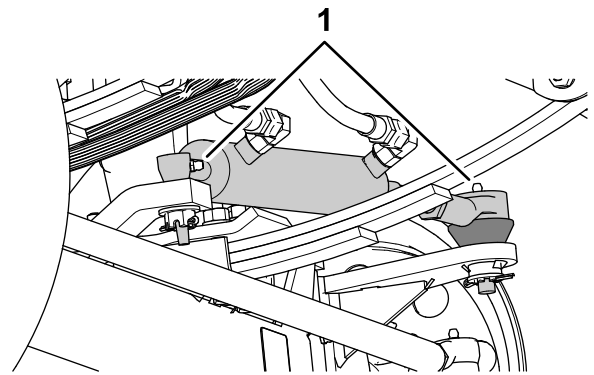
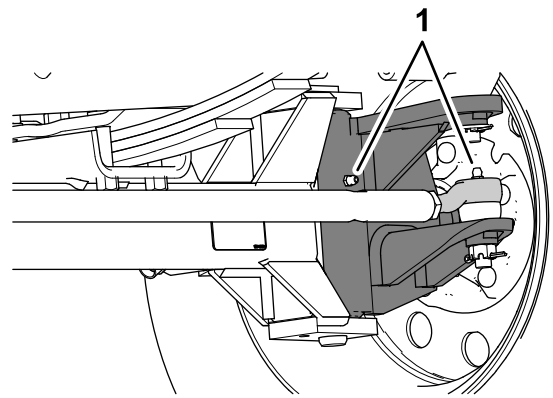

Figure 62
Figure 63
1. Wipe the grease fittings clean (Figure 62 and Figure 63).
2. Pump grease into the grease fittings (Figure 62 and Figure 63).
**Note:** The grease fittings positions are illustrated in Figure 62.